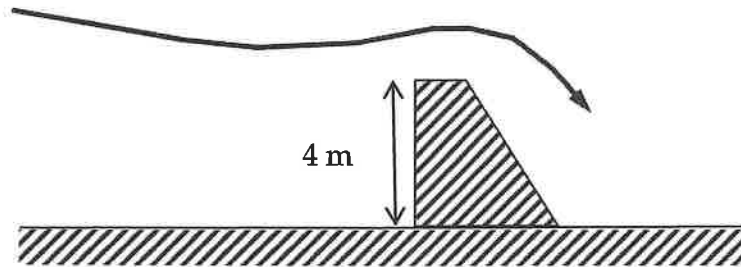

Figure Q2: Flow at the weir
- (b) A rectangular rubble masonry lined channel, 8 m wide, with a flow rate of 30 m³/s, encounters a 4 m high weir across the channel (Figure Q2). The channel is having a constant bed slope of 0.0004. The discharge equation for a sharp crested full width weir can be taken as $Q = C_d b g^{1/2} H^{3/2}$. Where $C_d = 0.6$, b is width of the weir and H is the depth of water above the weir crest. Manning's roughness coefficient of a rubble masonry channel can be taken as 0.025.